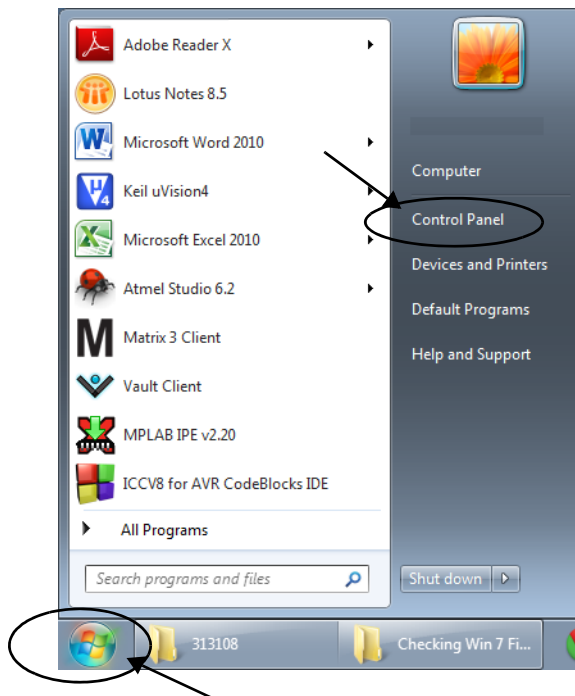

FIG. 51
1. Open the Windows 7 desktop. Click the Start button. Then click the Control Panel (FIG. 51).